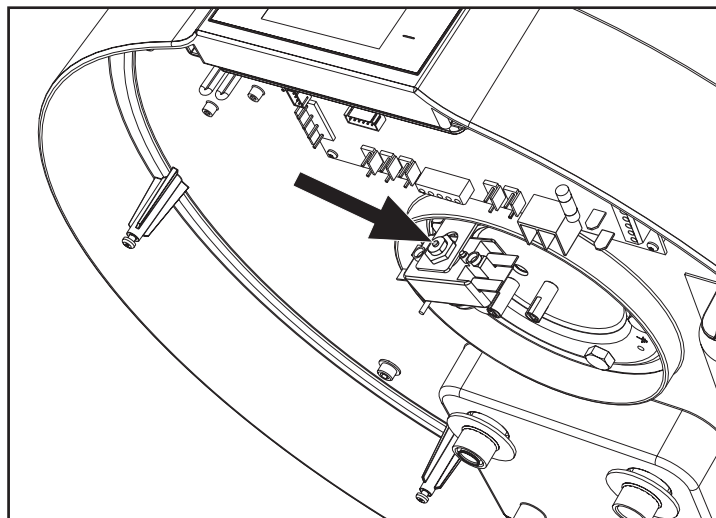

fig. 41 - Safety thermostat reset
- Manually reset the tripped safety thermostat (fig. 41). In case of tripping, the central pin of the thermostat comes out by